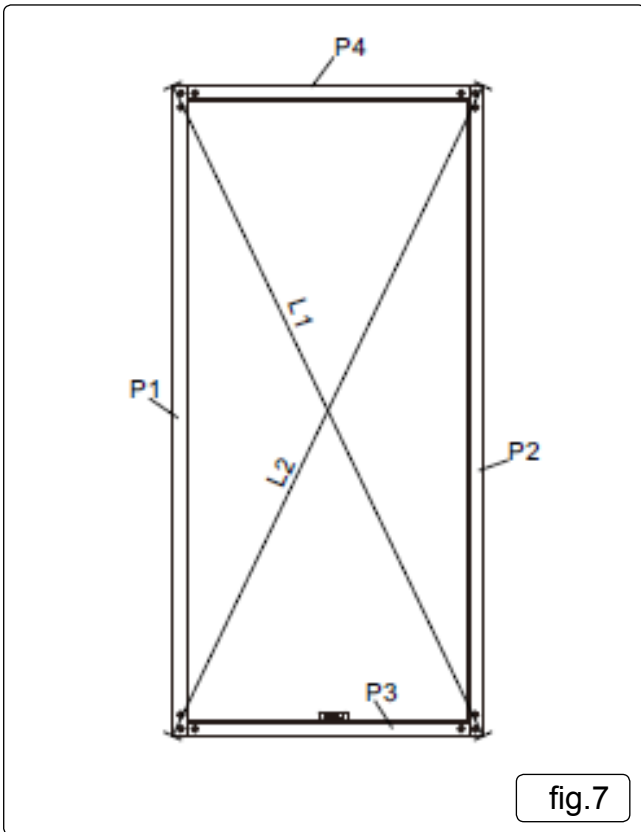

fig.7
5.6. Square the cabinet frame. Make sure the measurements from corner to corner are equal before tightening all bolts as per fig.7.